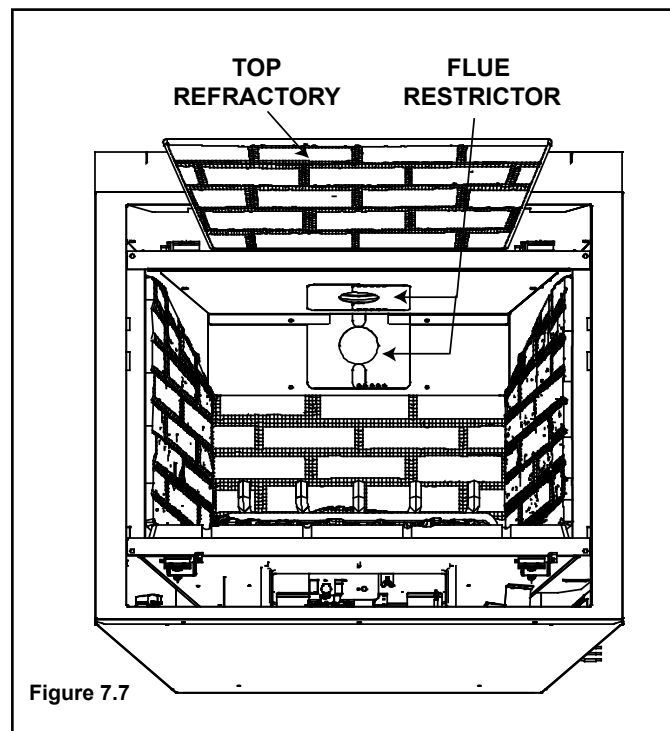

Figure 7.7
1. Remove the top piece of refractory, if already installed. See Figure 7.7.
4. Center the two flue restrictor pieces on the vent at the setting selected in step 3 and secure in place by using two self-tapping screws. See Figure 7.7.